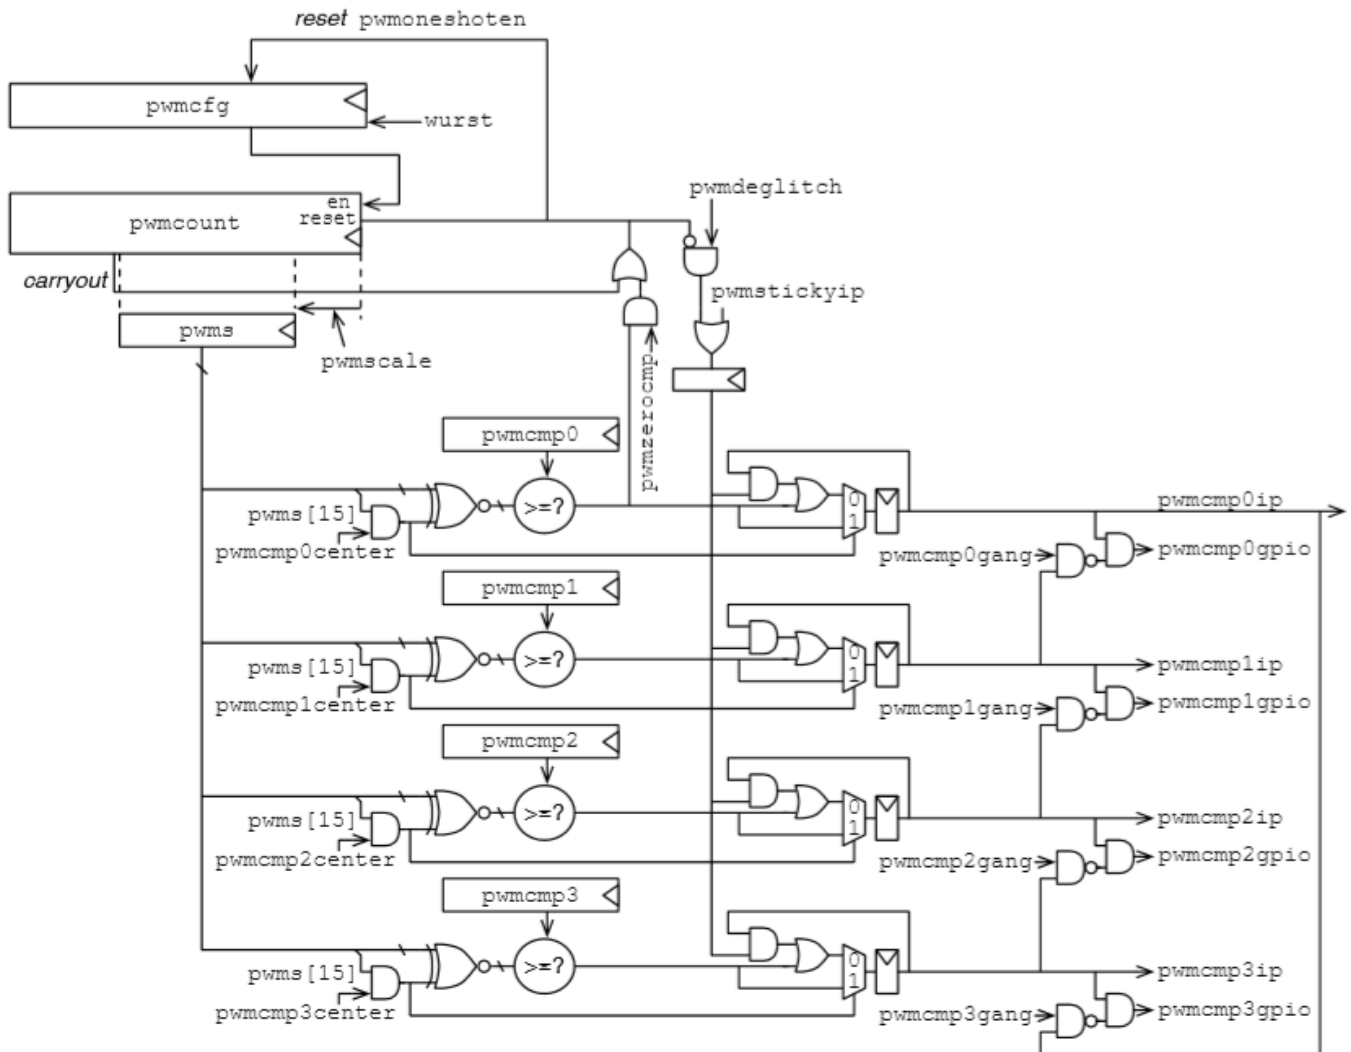

Figure 12-8-2 PWM Architecture Diagram
The internal structure of PWM is shown in Figure 12-8-2, and its characteristics are as follows:
1. Each PWM supports four programmable comparators (called pwmcmp0~pwmcmp3), each of which can generate a corresponding PWM output (signal name pwmcmp_X_gpio) and interrupt (signal name pwmcmp_X_ip), as shown in Figure 12-8-2.